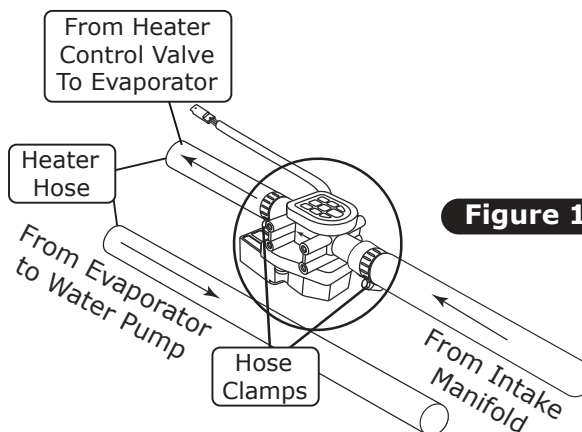

Figure 1
- Cut a 6 1/2" piece of heater hose and install it onto the heater control valve as shown in Photo 1, below. Note the valve direction, then connect the hose to the heater hardline closer to the driver-side as shown in Photo 1, below. Secure with hose clamps (See Photo 1, below). **NOTE: The heater control valve is directional. Refer to Figure 1, below, for correct installation.**